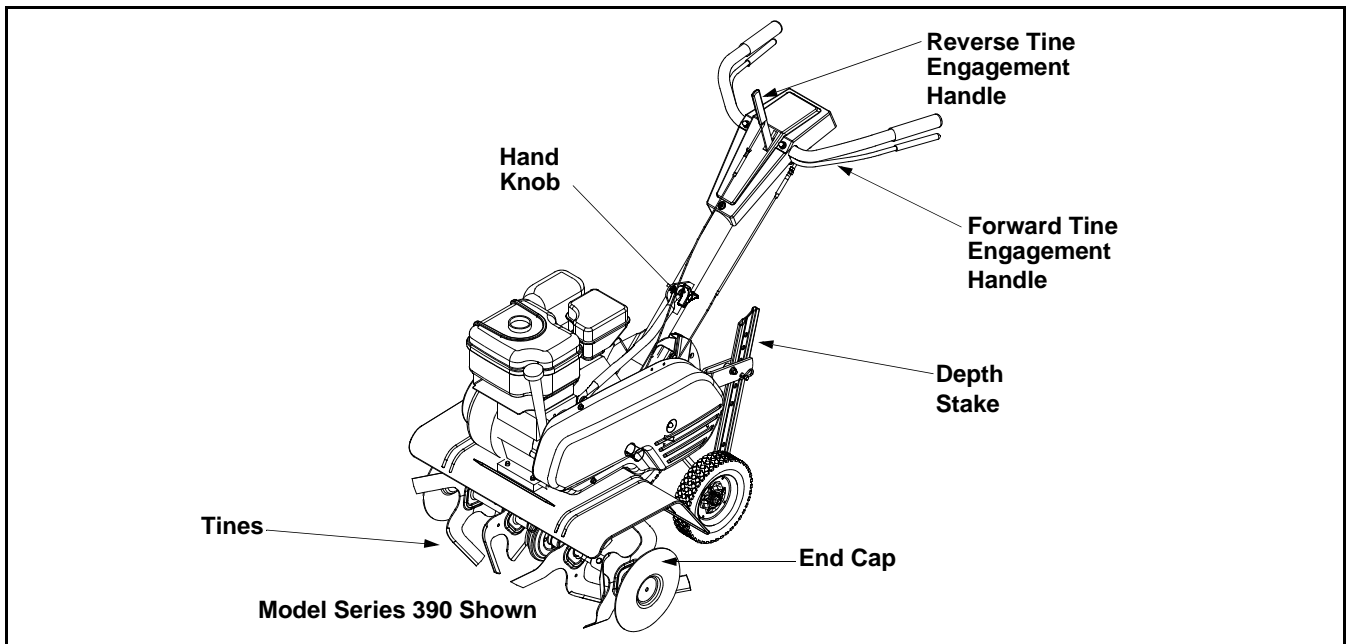

Figure 8
The forward tine engagement handle is located beneath the tiller handle. Squeezing the handle up against the tiller handle engages the tines. Release the handle to stop the tines. See Figure 8.
The reverse tine drive clutch lever is located on top of the handle panel. Pull the lever to the rear to move the tines in reverse. Release the lever to stop the reverse tine drive. See Figure 8.
- Make certain all controls are in the neutral position (released). See Figure 8.
- Push primer two (2) or three (3) times. Wait about two (2) seconds between each push.